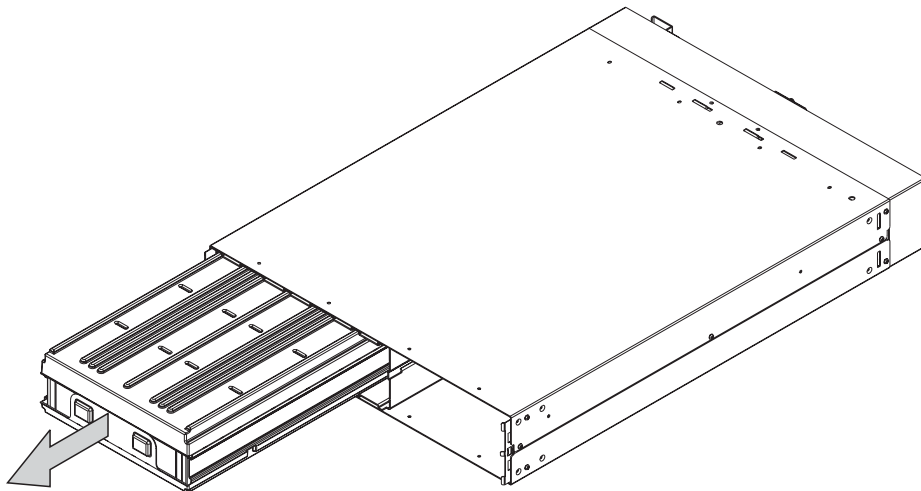

Figure 159. Removing the 2145 UPS battery
4. Remove the battery plate, to access to the battery. See Figure 159.